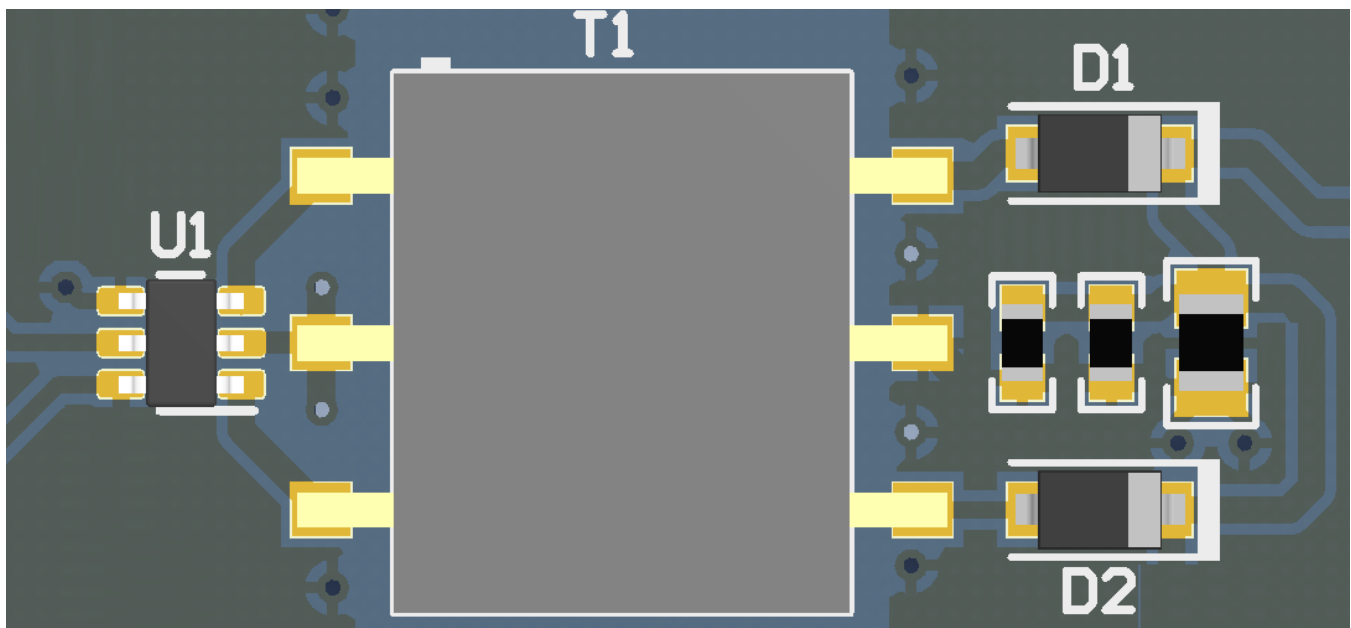

Figure 52. Layout Example of a 2-Layer Board
- The optimum placement is closest to the V_{IN} and GND pins at the board entrance to minimize the loop area formed by the bypass-capacitor connection, the V_{IN} terminal, and the GND pin. See Figure 52 for a PCB layout example.